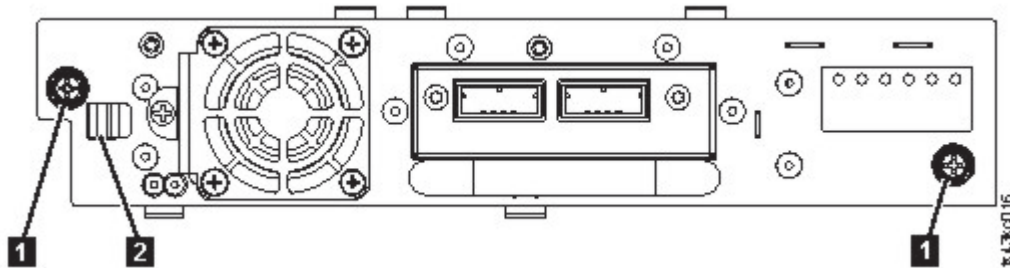

Figure 61. Unlocking the drive
- Loosen the blue captive thumbscrews (1 in Figure 61 on page 121) on the tape drive. Press the lock lever (2 Figure 61 on page 121) to the right and pull straight back on the tape drive handle while the bottom of the drive is supported to remove it from the unit.